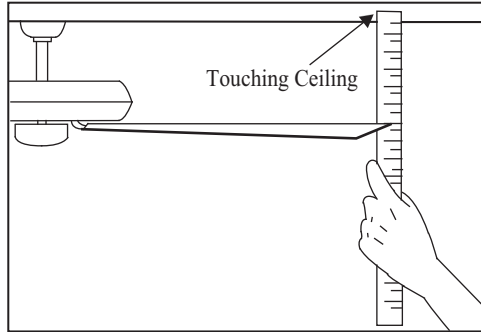

Figure 17
- Select a point on the ceiling above the tip of one of the blades, then select any fan blade and measure from the center of the selected blade to the point on the ceiling (as shown in Figure 17). Rotate the fan until the next blade is positioned and repeat the measurement using the same point from the ceiling for every blade. Measurement deviations should be within 1/8".